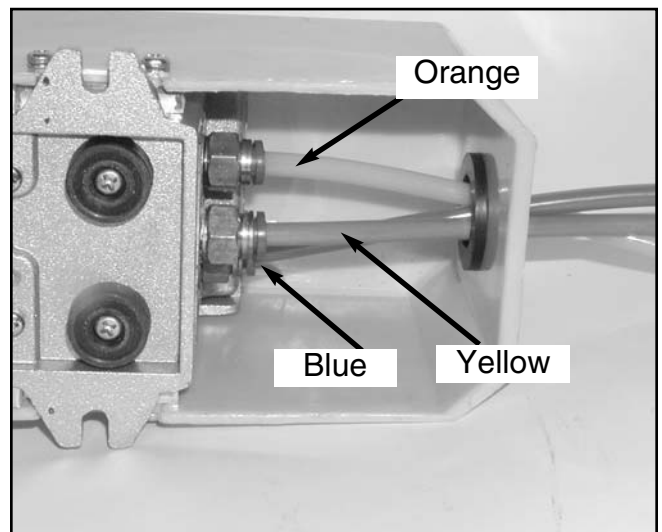

Figure 4. Installing air hoses.
3. Make sure each hose is aligned with the correct fitting before inserting, as removal is difficult as shown in **Figure 4**.